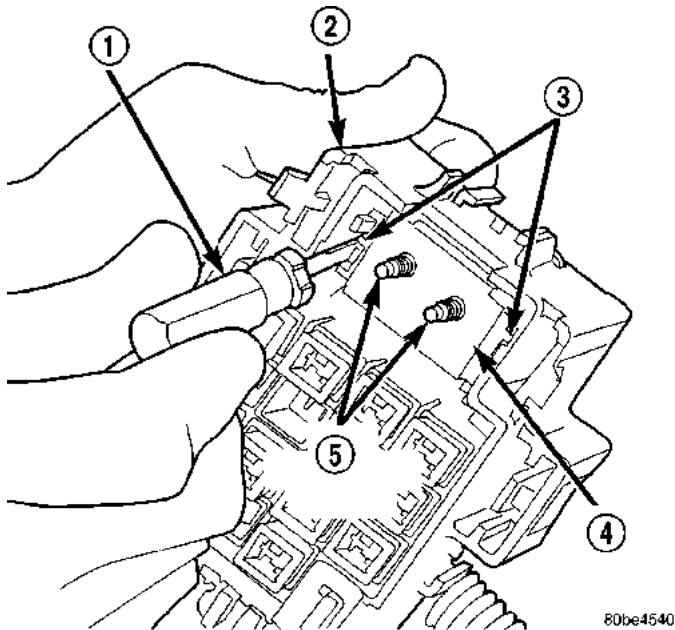

Fig. 10 PDC B(+) Terminal Module Latches
- (1) Remove the PDC housing lower cover.
- (2) From the top of the PDC housing, use a small screwdriver or a terminal pick tool (Special Tool Kit 6680) to release the two latches that secure the B(+) terminal module in the PDC (Fig. 10).